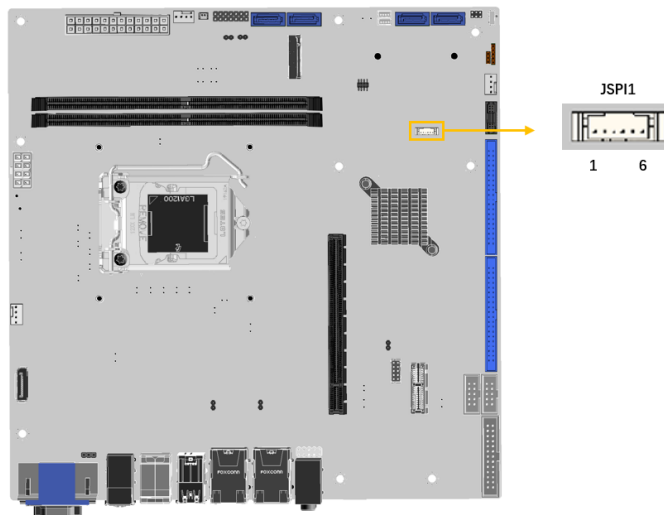

Figure 3-24: Flash SPI ROM Connector Location
- CN Location:** See **Figure 3-24**